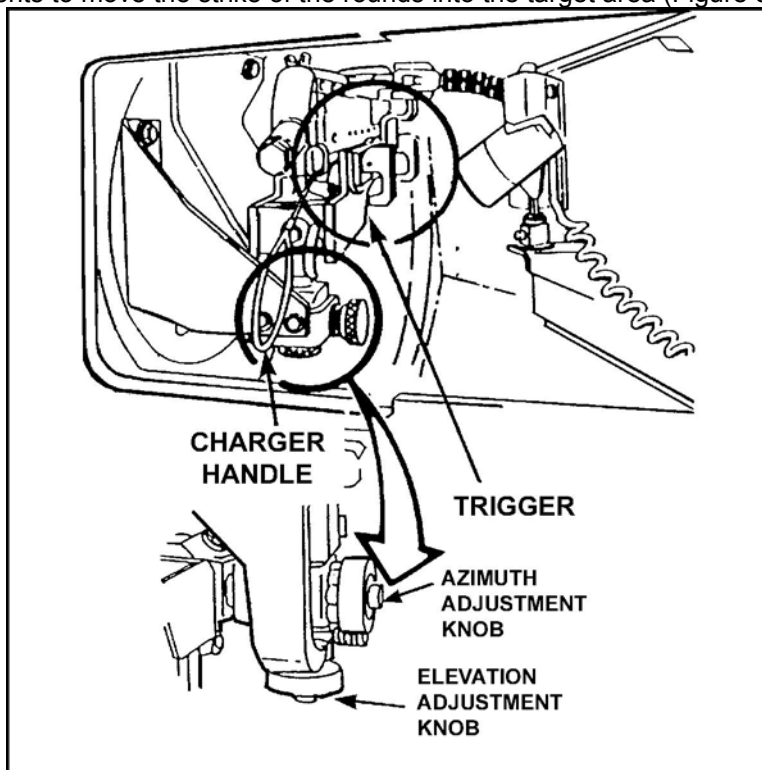

Figure 5. Elevation and azimuth adjustment knobs.
6. Make adjustments to move the strike of the rounds into the target area (Figure 5).